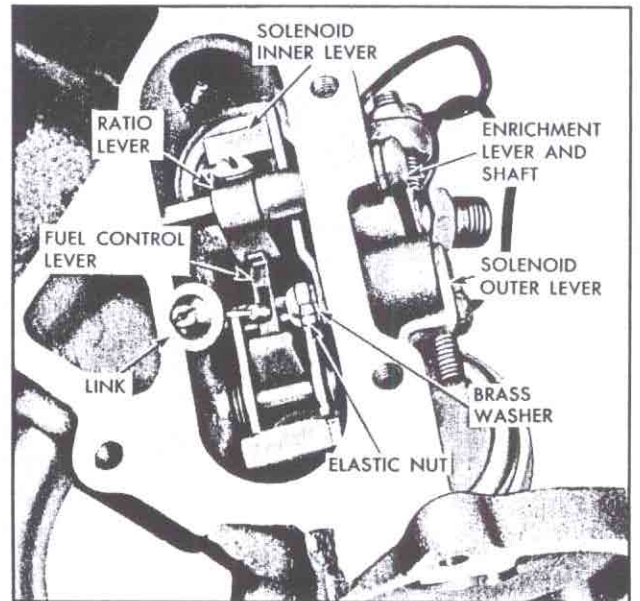

Fig. 139—Fuel Control Components Linkage
15. Loosen set screw in ratio lever (fig. 139), then remove ratio lever by pulling enrichment lever shaft out of fuel meter housing.
16. Using a 1/4" wrench, remove elastic nut securing solenoid inner lever (fig. 139). Remove inner lever and small brass washer from solenoid out lever shaft.
The above steps complete the usual fuel meter overhaul. However, if the fuel control linkage (fig. 139) is broken or otherwise damaged, the linkage can be replaced by forcing the linkage shaft through the side of the fuel meter housing with long nosed pliers from the inside.